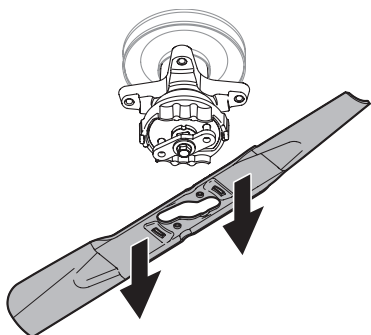

Figure 46
5. When the hole in the center of the blade aligns with the tractor blade retainer, carefully lower the blade. See Figure 46.